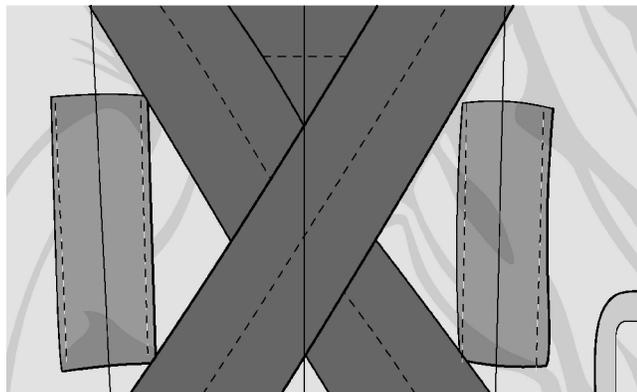

Figure 7. Location of Back Strap Guides
(9) Measure and sear cut four pieces of nylon tape (PIA-T-5038, Type IV, Class 1A, 1 1/2-in. wide) 4 3/8-in. long.
(10) Using a white pencil or equivalent, mark a centerline (3/4-in. on center) through the length of each piece of nylon webbing.
(11) Position the harness with the outside back facing up.
(12) Position the centerline of back strap guide on the layout mark, with the inboard corners approximately touching the harness webbing (Figure 7).